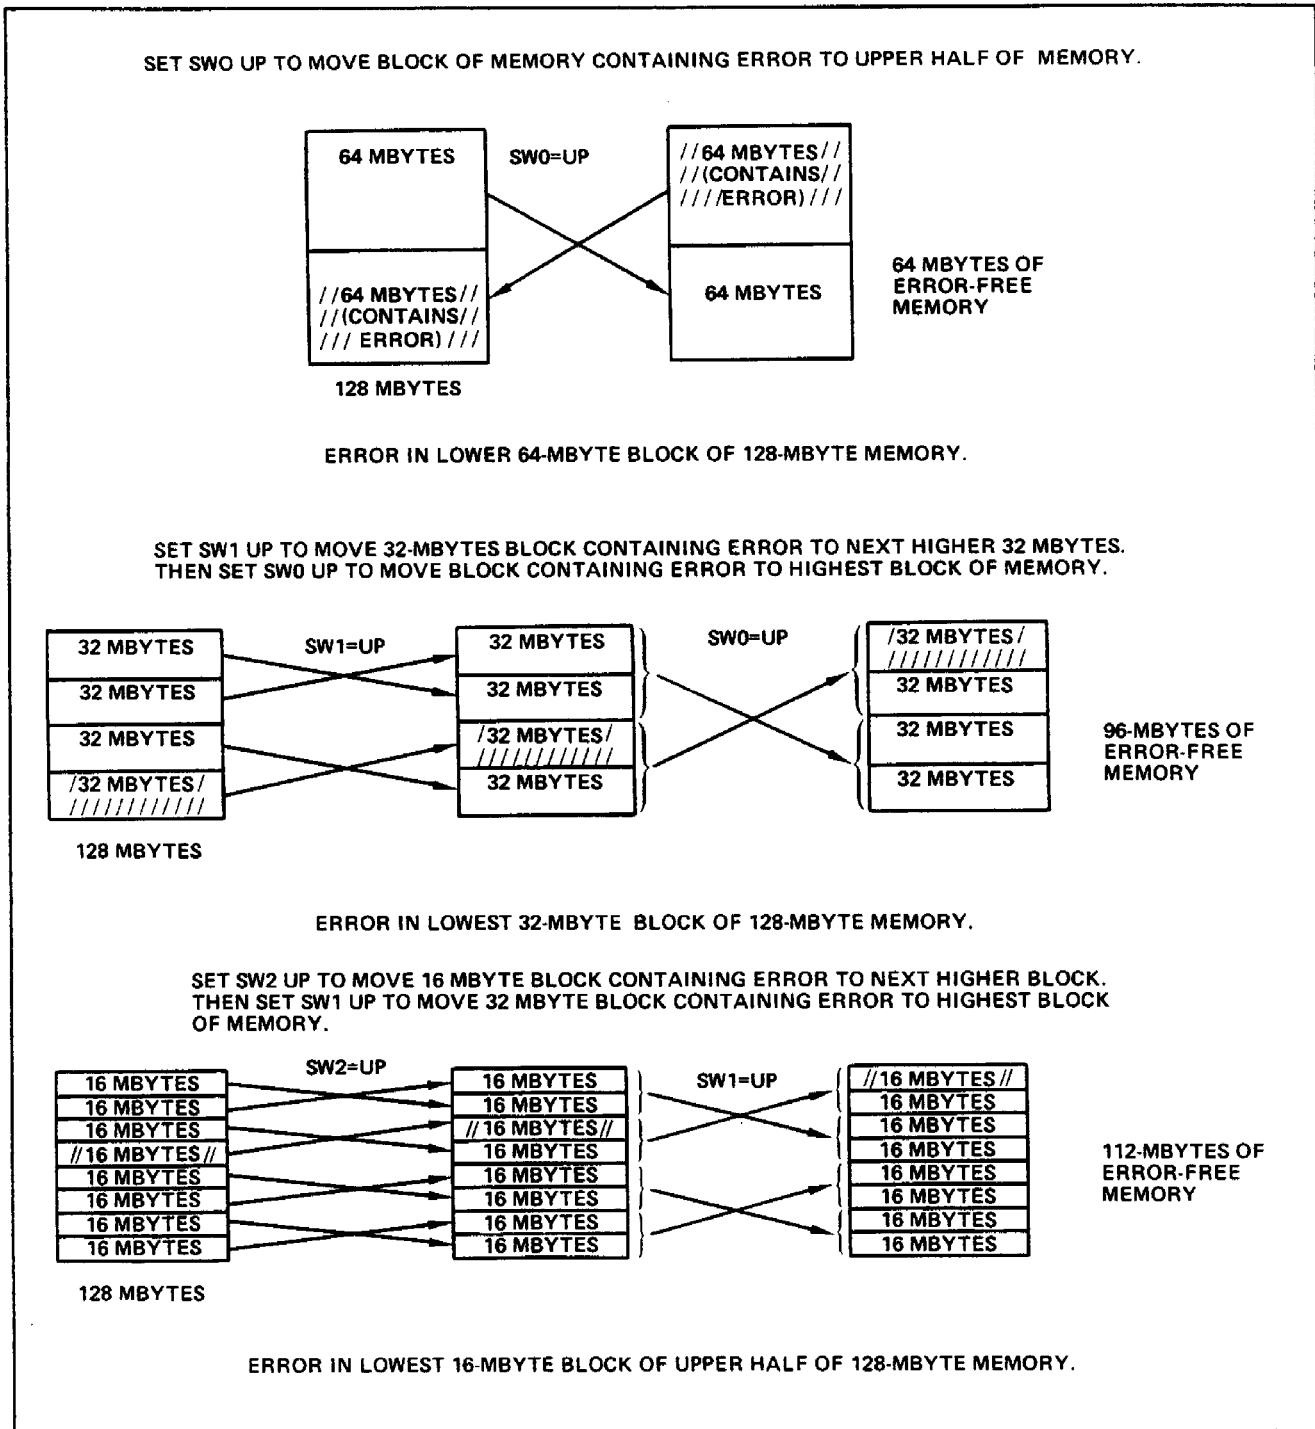

Figure 3-4. Reconfiguration Examples
1. CM remaining can be further reconfigured to obtain larger contiguous blocks of error-free memory by setting additional configuration switches. See examples shown in figure 3-4.